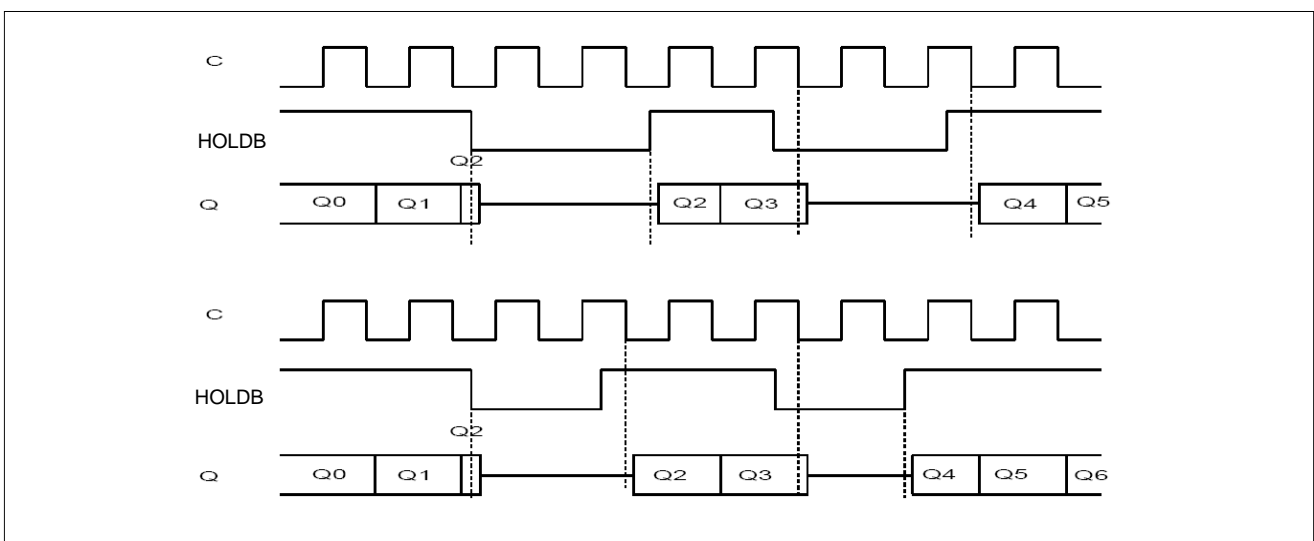

Figure3. Hold Condition Activation (for data output only)
The Hold condition starts on the falling edge of the Hold (HOLD) signal, provided that this coincides with Serial Clock (C) being Low (as shown in Figure 3).